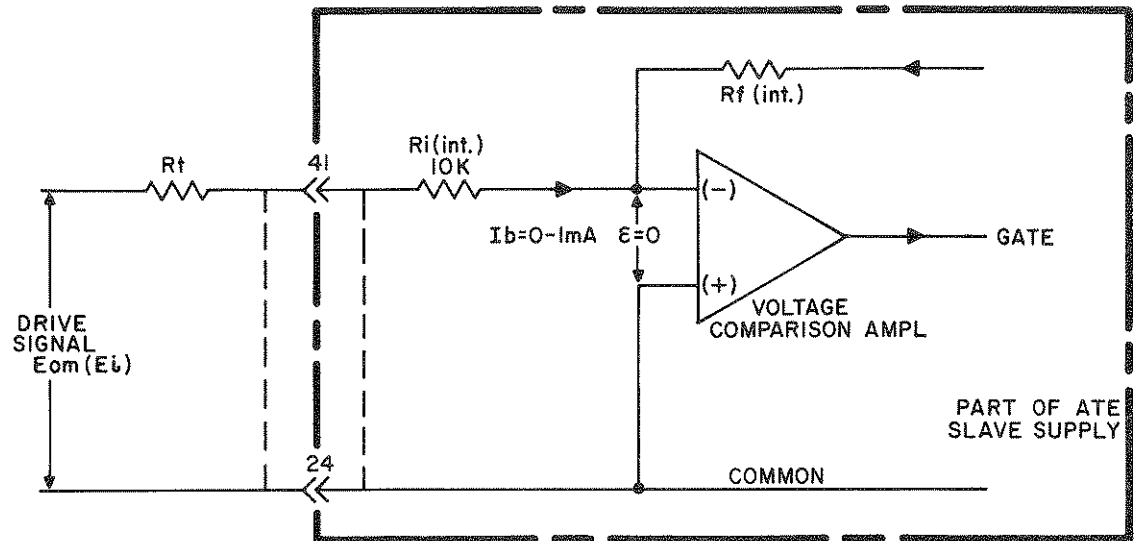

FIG. 3-21 DEVELOPING THE DRIVE FOR THE MASTER/SLAVE SERIES CONNECTION, ATE POWER SUPPLIES WITH RATED OUTPUT VOLTAGE $> 6V$.
- 3-98 As seen from the diagram (FIG. 3-21) in each SLAVE supply, the input to the VOLTAGE COMPARISON AMP is disconnected from the output of the VOLTAGE CONTROL amplifier and an external drive signal is derived from the output voltage of the MASTER supply (E_{om}) and applied via a coupling resistor (R_t), to the SLAVE supply.